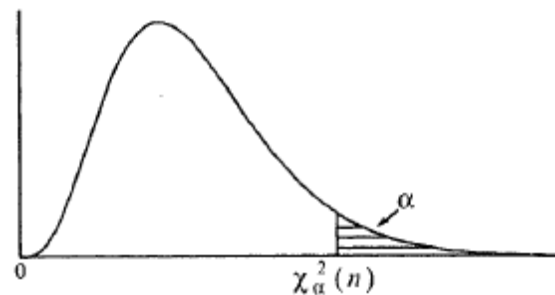

Figure 2: χ^2 distribution [1].
Figure 2 shows the χ^2 -distribution. For equation (1), the inverse cdf of the χ^2 -distribution is used to calculate for what value the area of the tail equals the value $\alpha/2$ (or $1-\alpha/2$), using the given degrees of freedom ($2F$ or $2F+2$).